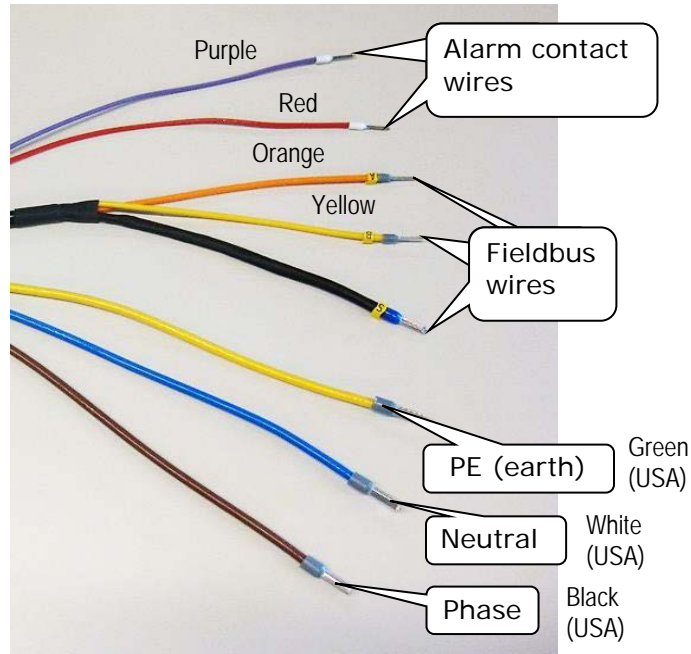

Figure 5 - Wire pins
- Add wire pins at the end of the wires. See Figure 5 - Wire pins.